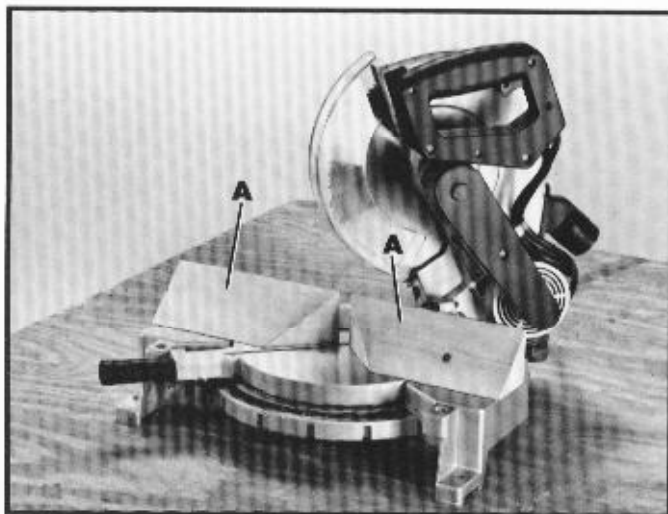

Fig. 45
3. Fig. 45, illustrates the filler blocks (A) for compound miters fastened to the miter box fence with the center portion of the filler block (45 degree right and left angle) removed after it was cut-out on the saw.